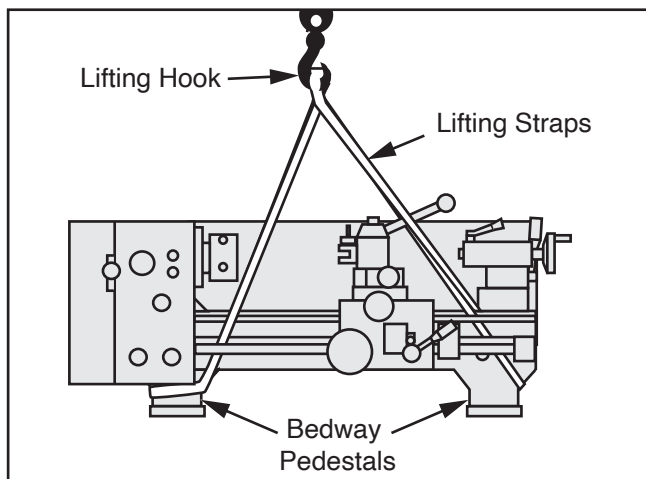
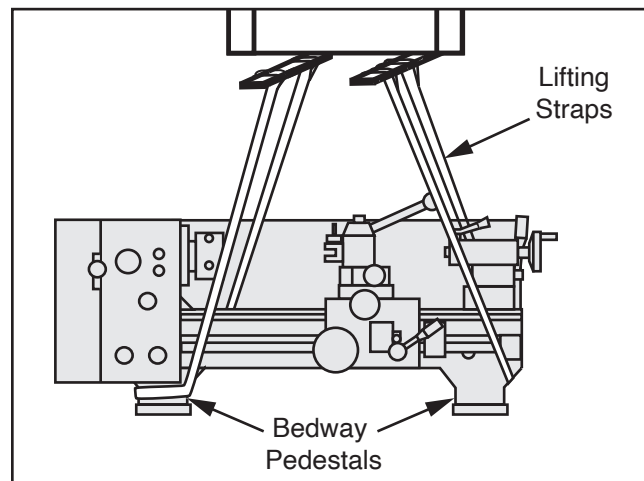

Figure 18. Lifting setup for hoist.
Figure 19. Lifting setup for forklift.
11. Wrap (2) lifting straps around bedway pedestals and route them behind leadscrew. Either attach them to safety hook (see **Figure 18**) or forklift forks (see **Figure 19**). This will keep lifting straps away from these critical components and prevent them from bending during lifting.